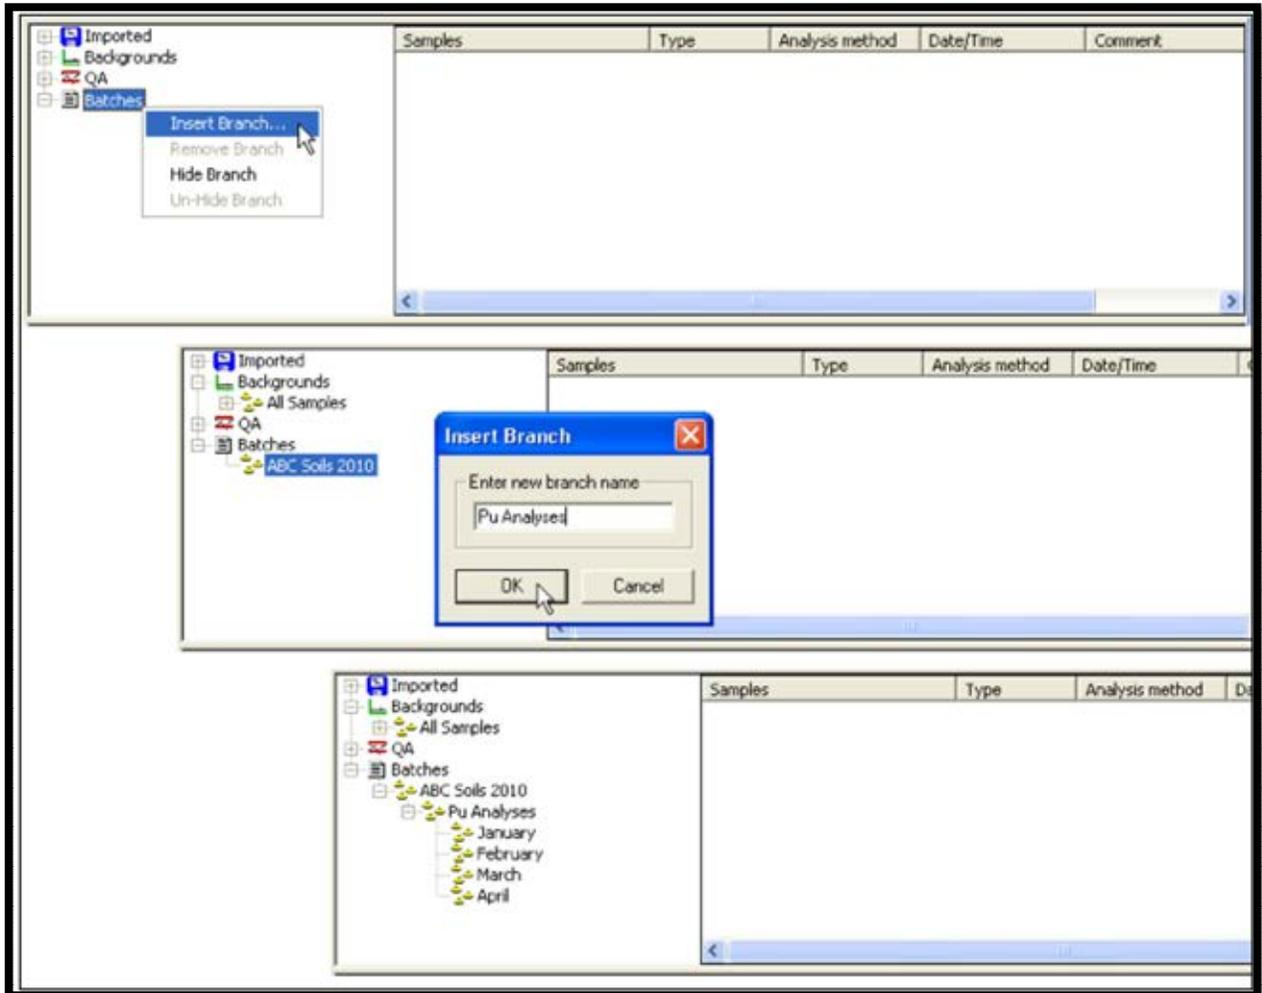

Figure 93. Creating a Three-Tiered Project "Tree"
- 3) Add as many branches and sub-branches as the project requires. Figure 93 illustrates this process.